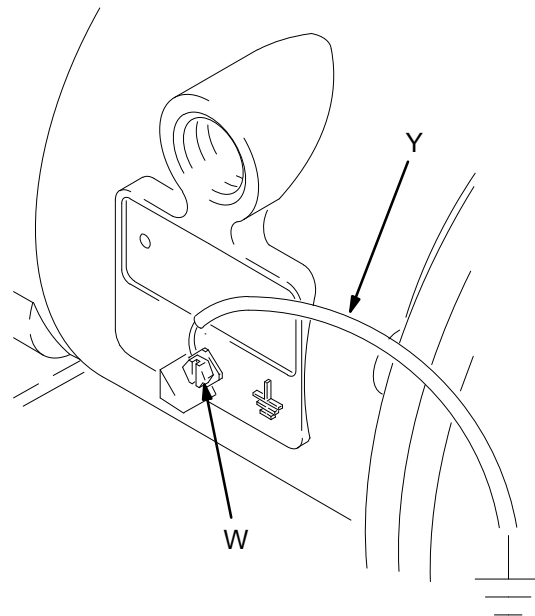

Fig. 1
- *Pump:* Connect a ground wire and clamp as shown in Fig. 1. Loosen the grounding screw (W). Insert one end of a 1.5 mm2 minimum ground wire (Y) behind the grounding screw and tighten the screw securely. Connect the clamp end of the ground wire to a true earth ground. Order Part No. 819.0157 Ground Wire and Clamp.